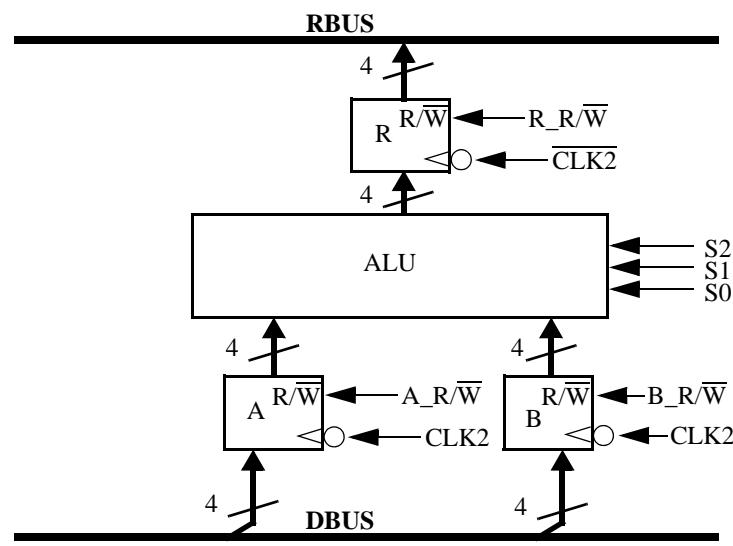

Fig. 2. Circuit diagram for Q2.
4.3 Design a digital circuit to implement an overflow indicator for the circuit shown in Fig. 2. Store the overflow state in a flip-flop called V.